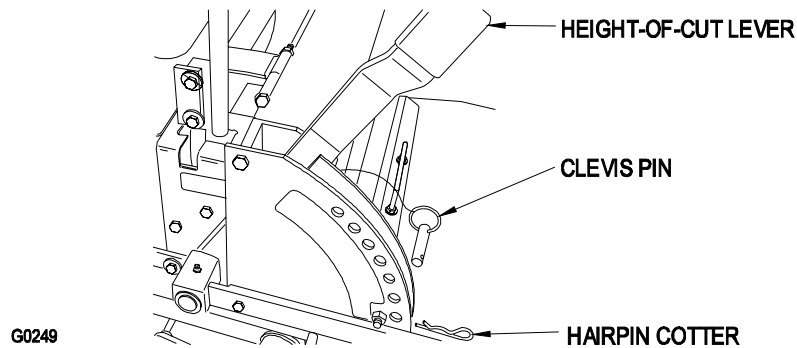

Figure 11
3. Raise the deck to the transport position (Fig.11).
1. Move the hairpin cotter and clevis pin to the lowest position in the height-of-cut bracket (Fig 11.)